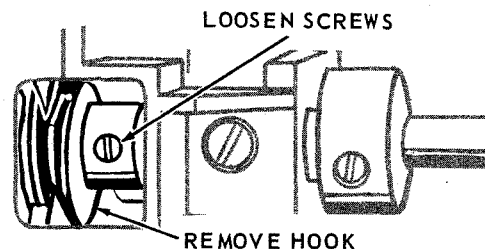

Fig. 39. Removing Hook Assembly
3. Loosen two set screws, Fig. 39, in hub of hook assembly.